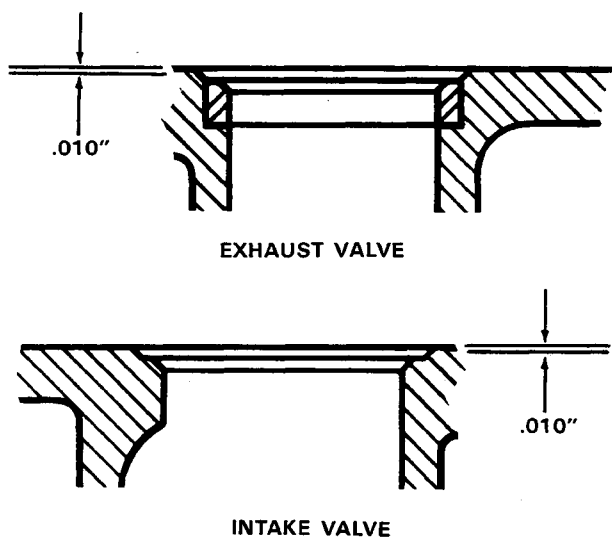

**Figure 24**
**IMPORTANT:** The valve seat runout should be checked after finish grinding with a dial indicator and seat grinding pilot, Figure 24. The runout of the valve seat must not exceed .002" .